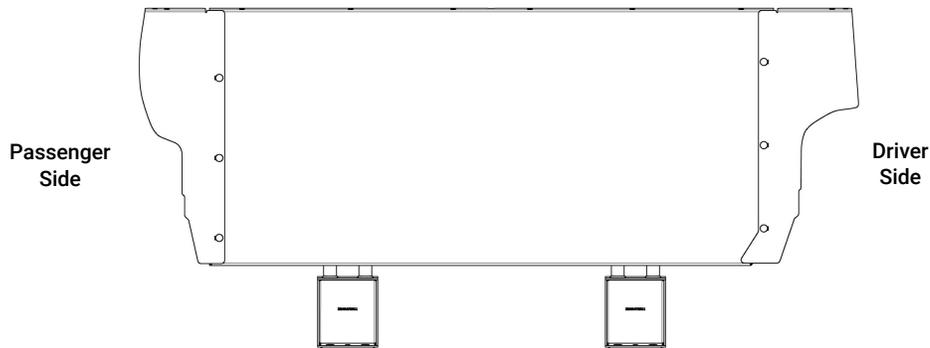

Figure 3
- A. Locate (6) carriage bolts [3X36] and (6) zinc whiz nuts [3X16Z] and place (3) of each on either side of the vehicle by the front panel.
- B. Align the (3) slots in the Driver Wing [3CSC472021] with the corresponding holes on the driver side of the front panel.
- D. Repeat Steps B. and C. for the passenger side using the Passenger Wing [3CSC472022] and the remaining fasteners prepared in Step A. Figure 3 shows both Wings installed on the Front Panel.